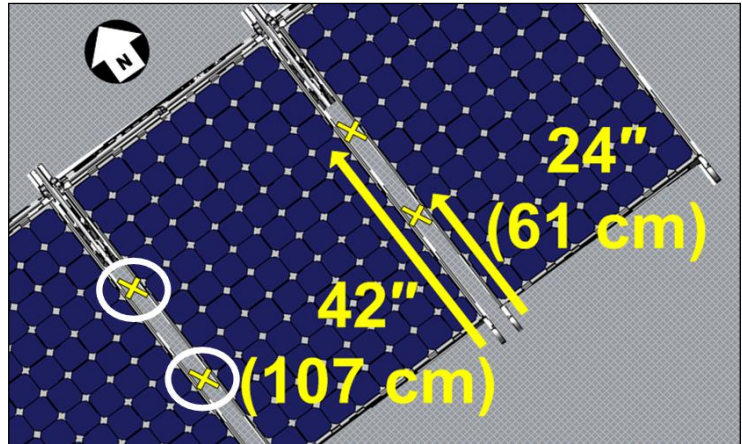

Fig. 76
- One support 24” (61 cm) from the module south connection point (midway between the 4th and 5th cell from the south edge of the module) (Fig. 76).
- One support 42” (107 cm) from the module south connection point (midway between the 4th and 5th cell from the north edge of the module) (Fig. 76).